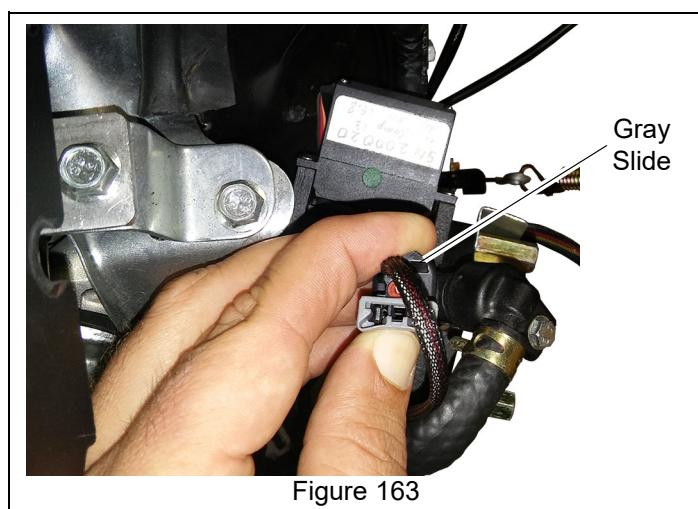

Figure 163
- a. Move gray slide upward until it stops. Gently compress gray slide and remove connector. See Figure 163.